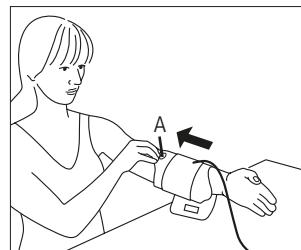

Fig. 1
- The blood pressure must be measured on a bare upper arm. If the cuff is completely open, thread the end of the cuff through the metal ring to form a loop. The hook-and-loop fastener must face outwards. Hold the cuff by the grip tab A (see Fig. 1) and pull it over your upper arm.